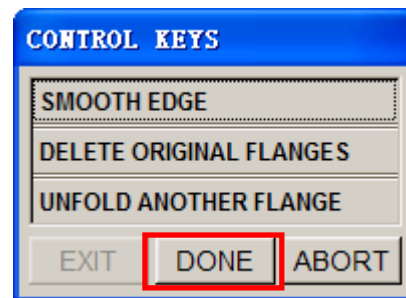

Figure 59 Control Keys dialog box
11. Click **Done** button to complete the unfolding operation, as illustrated in Figure 59.